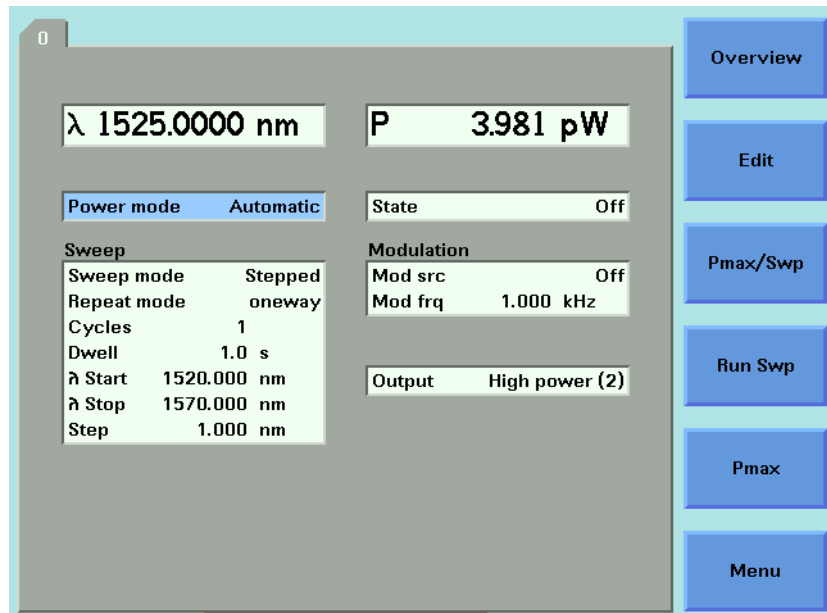

Figure 63 Setting High Power parameters
- <High Power (2)>, a high power optical output, for example, for use in testing Erbium Doped Fiber Amplifiers (EDFAs), you see a screen similar to Figure 63 ,
- 6 If [Power Mode] is not set to <Manual Att.> (see Figure 63 ), that is, it is set <Automatic>, perform the following steps: